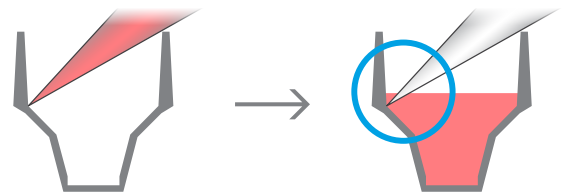

Figure 5. Proper pipetting technique for dispensing cells into XF Tissue Culture Microplates.
2. The pipet tips should be at ~ 45 degrees approximately halfway down the side wall, and should touch the wall of the well (Figure 5). The pipet should be held at the same angle for all wells.